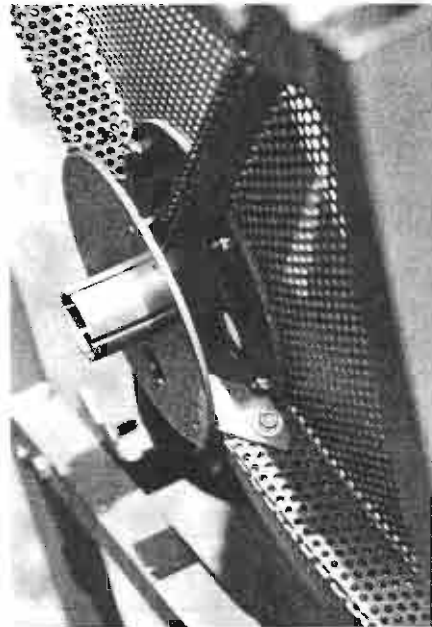

FIGURE 10
**STEP 10.** Place stabilizer plate over feed support and attach to ribs of reflector with 4 #10-32 x 5/8" bolts flat washers and locking type nuts. Tighten nuts. (Figure 10)